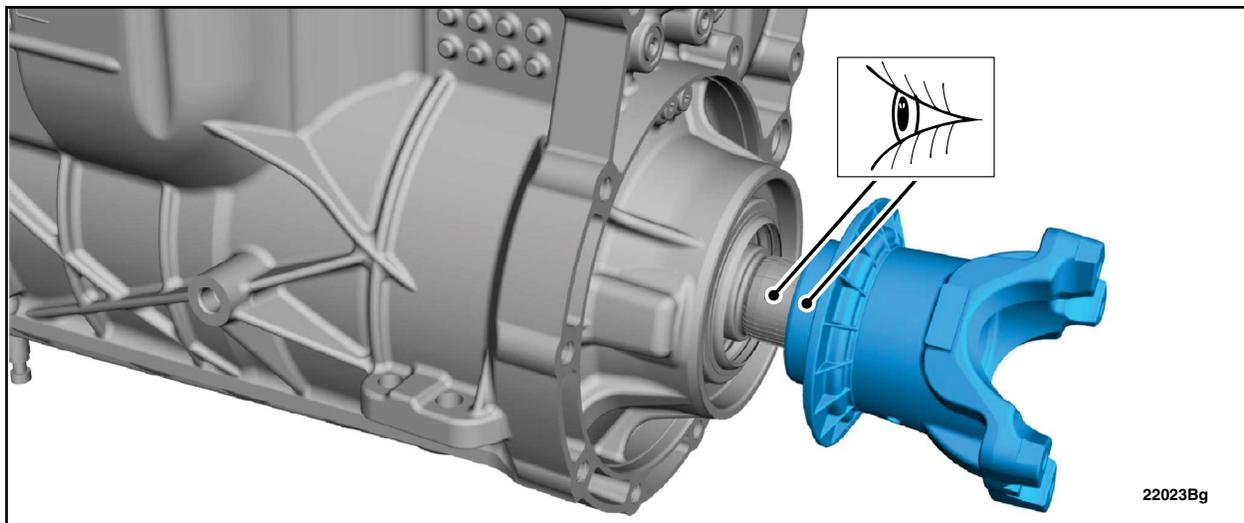

FIGURE 72
83. Align the output shaft flange marks to the output shaft. See Figure 72.